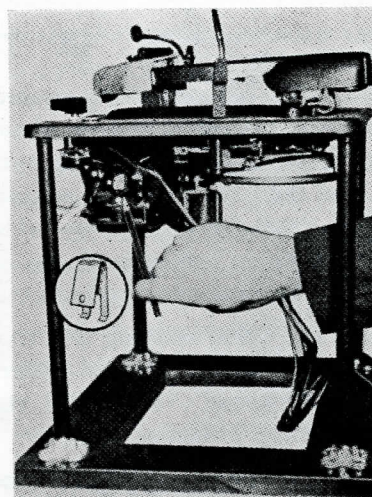

FIG. 11
4. If less than 5 ounces, additional end thrust pressure should be applied at the fibre end-piece on the opposite end of the motor. This can be accomplished by inserting the special flat spring, Philco Part No. 56-6201, as shown in figure 11. The slot of the spring is placed in back of the bracket which supports the fibre end-piece, and the portion of the spring with the indent hole bears against the fibre end.